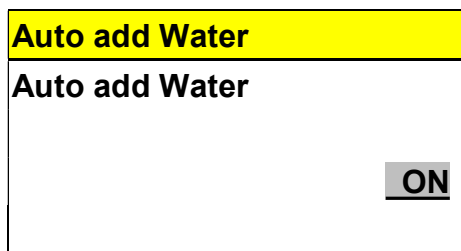

Figure 142
- C. Press  or  button to enable or disable the Auto add water, and press  button to store the parameter in Figure 142.